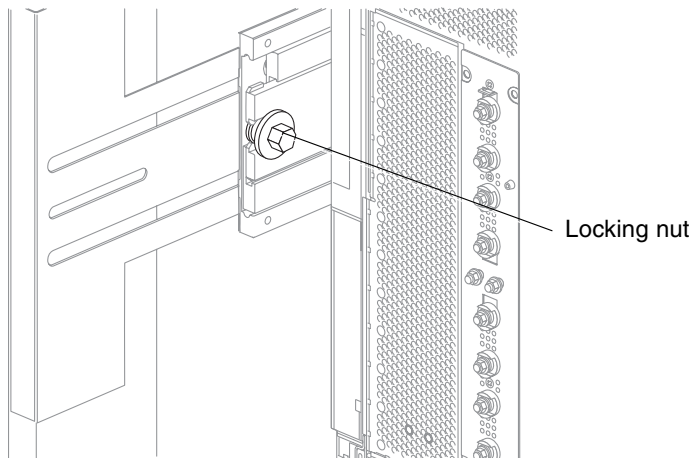

FIGURE 3-4 Slide Locking Nut
5. Tighten the slide locking nuts at the rear of the system (FIGURE 3-4)